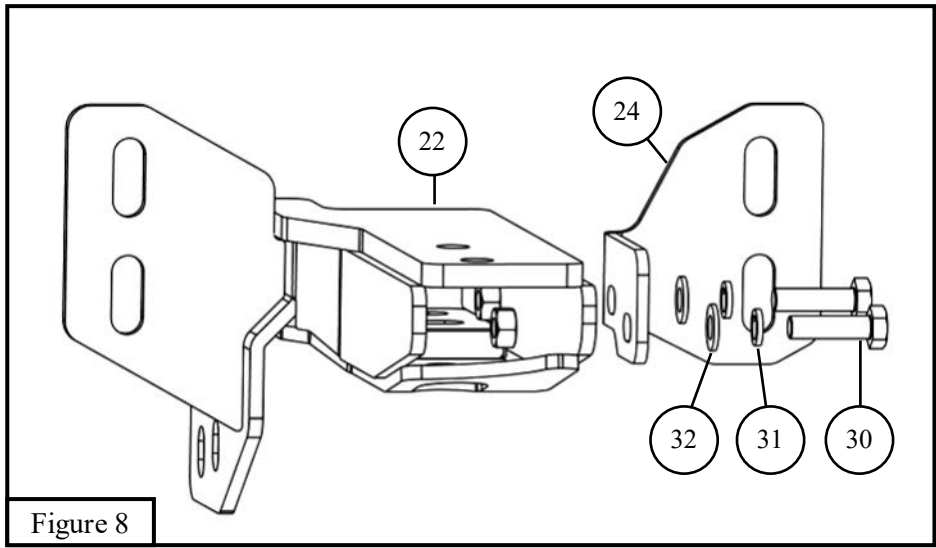

Figure 8
13. Loosely install the driver winch tray mount bracket “B” (item 24) onto the driver winch tray mount bracket “A” using the M10 hardware (items 30-32). See **Figure 8**.
15. Reinstall the bumper. Attach the bumper to the winch tray mount brackets using the factory bolts and M12 hardware (items 27-29).